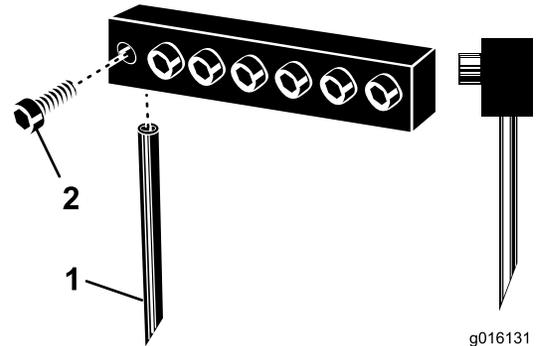

Figure 26
3. Loosen the clamping bolts and remove the previously used tines (Figure 26).
Note: Hollow coring tines should be positioned with the ejection slot to the rear while the solid tines should have the tine tip angle facing the machine (Figure 26).